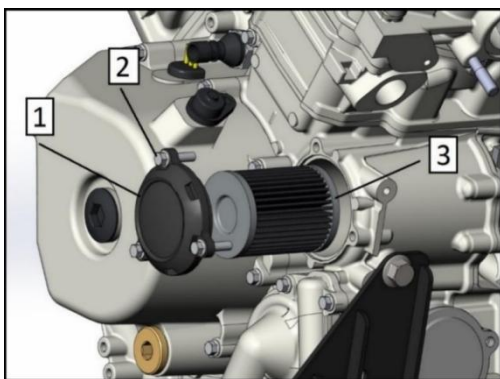

Fig. 7
5. Take out the oil filter and recycle it (Item 3, Figure 7).